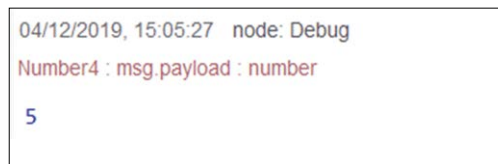

Figure 4.38 Displaying the mean value of numbers
- Click the buttons of the four **inject** nodes, starting from the top node. You will notice that no output is produced until the last inject node is clicked. The result is $(3+7+8+2) / 4 = 5$ is displayed in the Debug window as shown in Figure 4.38.